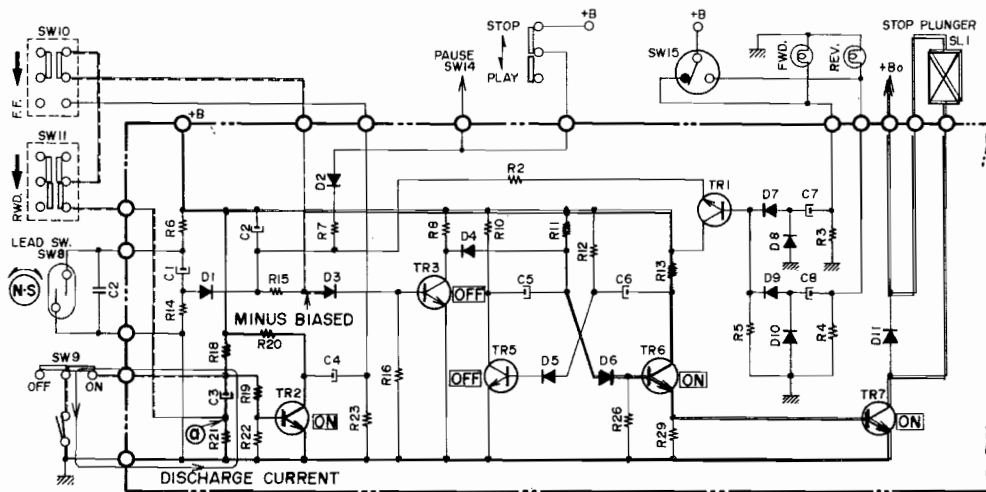

Fig. 42
As shown in Fig. 42, there is a switch inside the tape counter which makes contact when the tape counter scale reaches "900" and separates when the scale reaches "000". Memory Wind Switch SW19 is thus turned ON, and when the scale reaches "000", the syscon circuit operates and the deck enters STOP mode.
OPERATION DURING REWIND (Refer to Fig. 42)
- 2) When the decreasing tape counter scale becomes "000", the contact point inside the tape counter which was momentarily activated at "999", makes contact and the electric charge (charged at condenser C3) passes resistor R21 and as shown in Fig. 42, discharge begins.
- 1) Once power is supplied, the syscon assumes a stabilized condition as described above. However, as shown in Fig. 42, because play switch SW12 separates when the Fwd Button is depressed, syscon circuit operation becomes unstable.